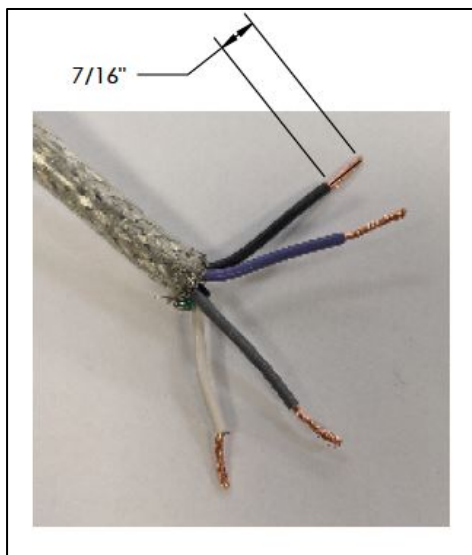
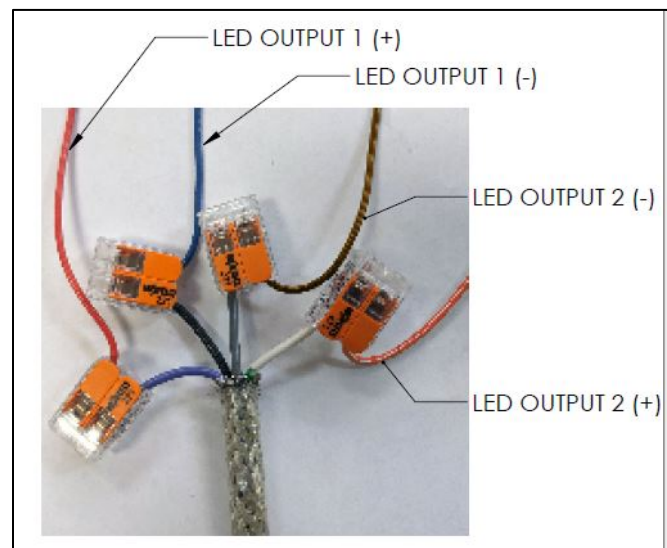

FIG. 22
FIG. 23
2. Strip off about 7/16" of insulation from the four remaining wires and twist inner strands together as shown in FIG. 22 below. Connect the cord wires to the wires from the driver as shown below. The internal cord wires are labeled as shown in the table below as shown in FIG. 23 below.